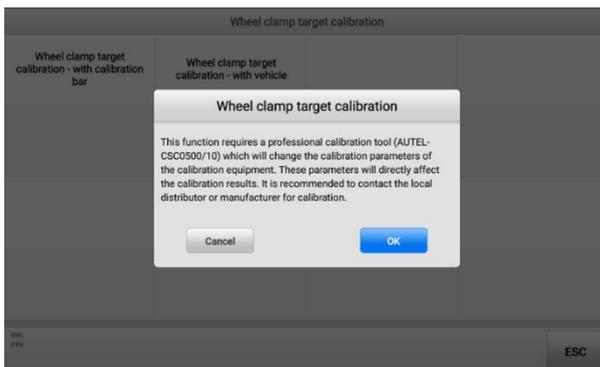

Figure 10-23 Select Calibration Method
4. Select **Wheel clamp target calibration — with vehicle** from the right of the screen. See Figure 10-23 Select Calibration Method.